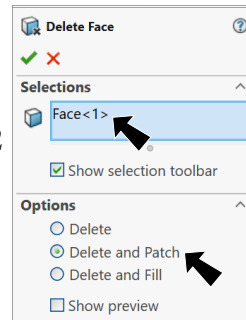

Fig. 20
Step 2. Zoom in on the top of the Sweep, **Fig. 20**.